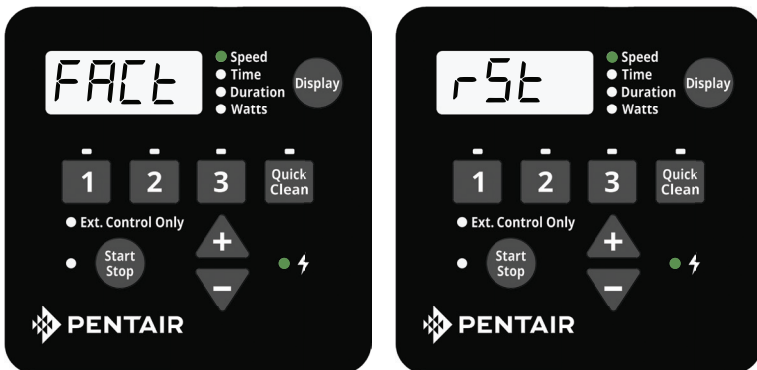

Figure 13: Drive Factory Reset
4. The screen will display “*FACt rSt*” if factory reset is successful. See **Figure 13**.